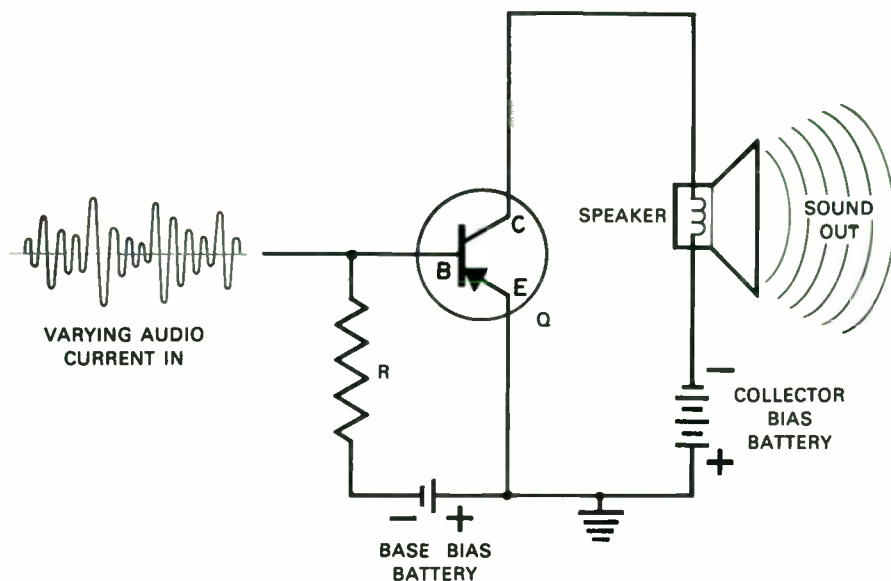
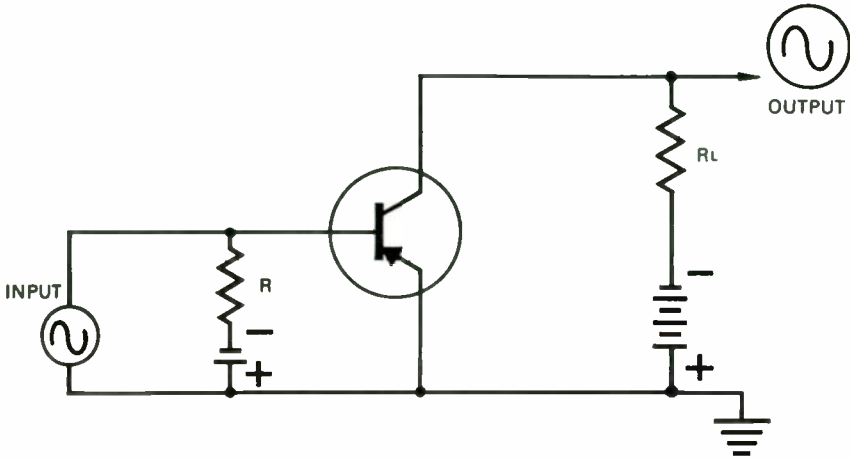

Figure 16 — Basic audio amplifier.
Figure 17 — Common emitter amplifier.
Figure 16 schematically represents a basic audio amplifier. The small input signal of varying audio current is injected directly into the base (B) of transistor "Q." R is included to prevent the base bias battery from affecting the input signal. In this case, the *base* is the input element.
The transistor in the basic audio amplifier of Figure 16 is in a common emitter configuration. This is the most widely used arrangement. It is also referred to as a grounded emitter circuit. The output load (speaker, in this case) is in the collector's circuit. Another version of the configuration is shown in Figure 17.